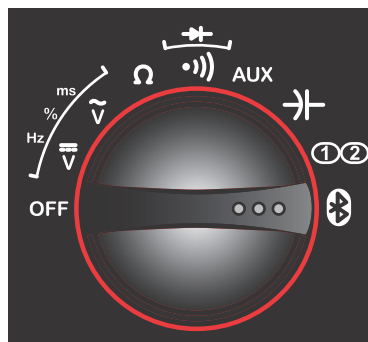

Figure 13-4 Rotary switch Remote functions setting
2. Set the M2 rotary switch to the **Remote Functions** position (Figure 13-4).